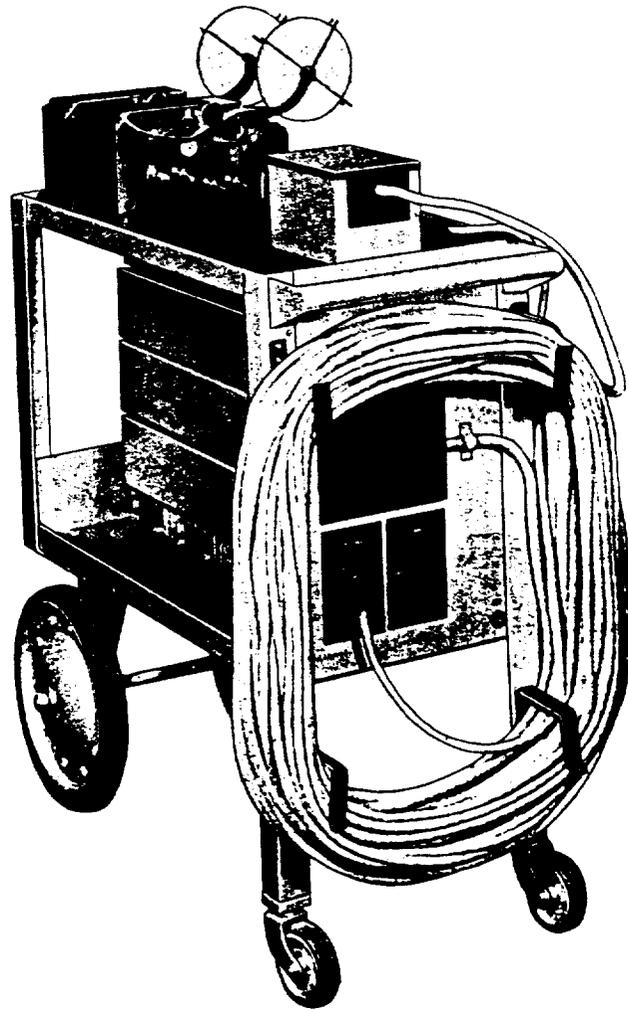

Fig. 1 - Line Busy Recorder Unit and Auxiliary Equipment
2.01 The recorder is a portable equipment mounted on a small table type test wagon as shown in Fig. 1. The recorder unit is equipped with flexible cords to connect it to the connector shelf to be observed, and to two pen registers.